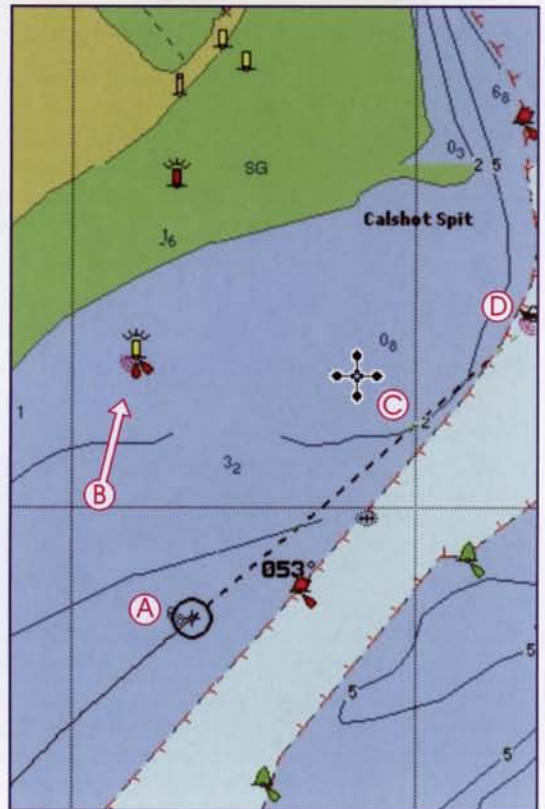

Fig 62
In the situation shown in Fig 62, for instance, the plotter is displaying our current position as a black circle (A) with our past track as a solid black line behind it and our predicted track as a dotted line ahead of it. Our Course over Ground is 053°. In this situation, it is quite likely that the navigator might have checked his position by looking at the transit (B) as he went